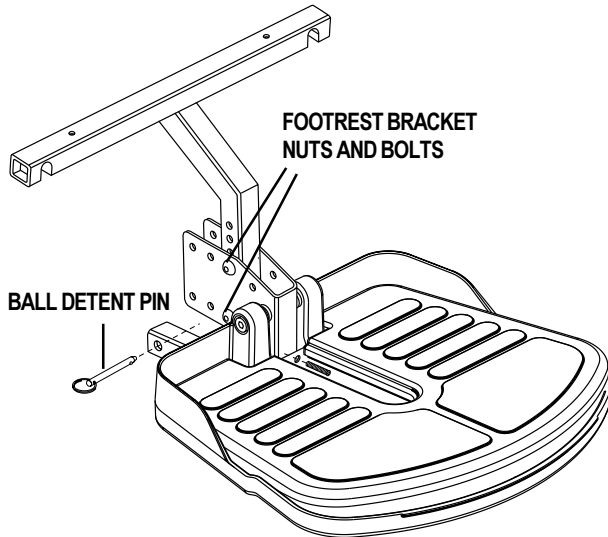

Figure 12. Footrest (Shroud removed.)
1. Remove the nuts and bolts from bracket. See figure 12.
1. Remove the nuts and bolts from the bracket. See figure 12.